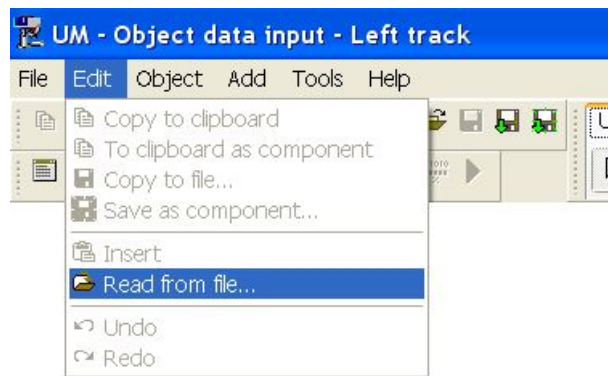

Fig. 21 Menu command for adding an element from file
- 2) Add a shock absorber model from the UM database by the **Edit | Read from file** command, Fig. 21. Select the file